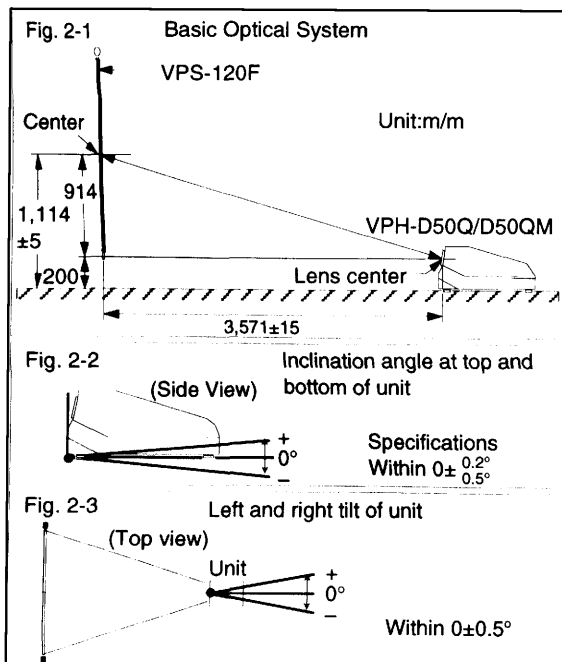

Fig. 2
- (1) Place the unit on a table which satisfies the projection conditions in Fig. 2.